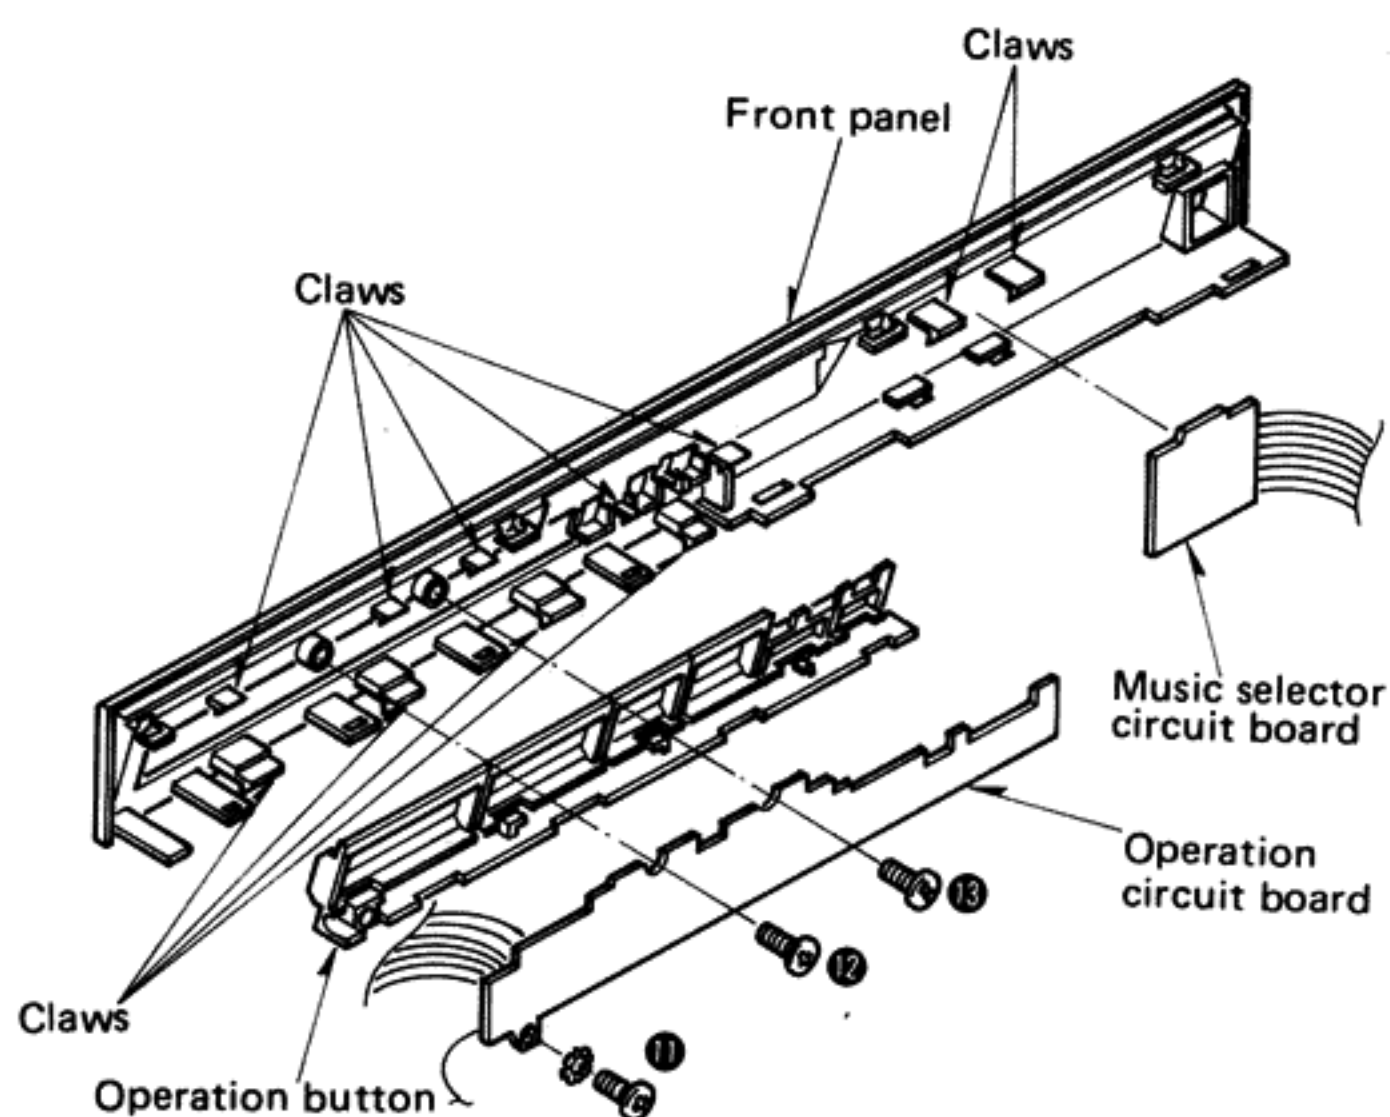

Fig. 7
3. Remove the 3 operation circuit board setscrews (Fig. 7 : ⑪ ~ ⑬).
4. Release the 5 claws, then the operation circuit board can be removed. (Fig. 7)
5. Release the 4 claws and gently pull the operation button. (Fig. 7)
1. Remove the front panel. (Refer to "How to remove the operation button", item 2.)
2. Release the 2 claws, then the music select circuit board can be removed. (Fig. 7)